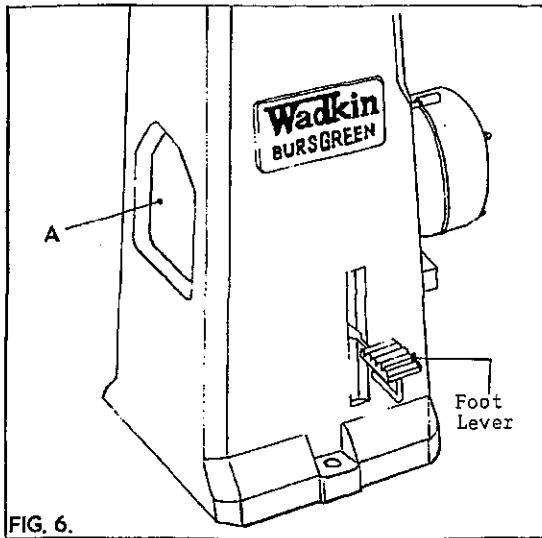

FIG. 6.
4. Select the required speed on the stepped motor pulley through the aperture "A" in the side of the trunk, as shown in Fig. 6.